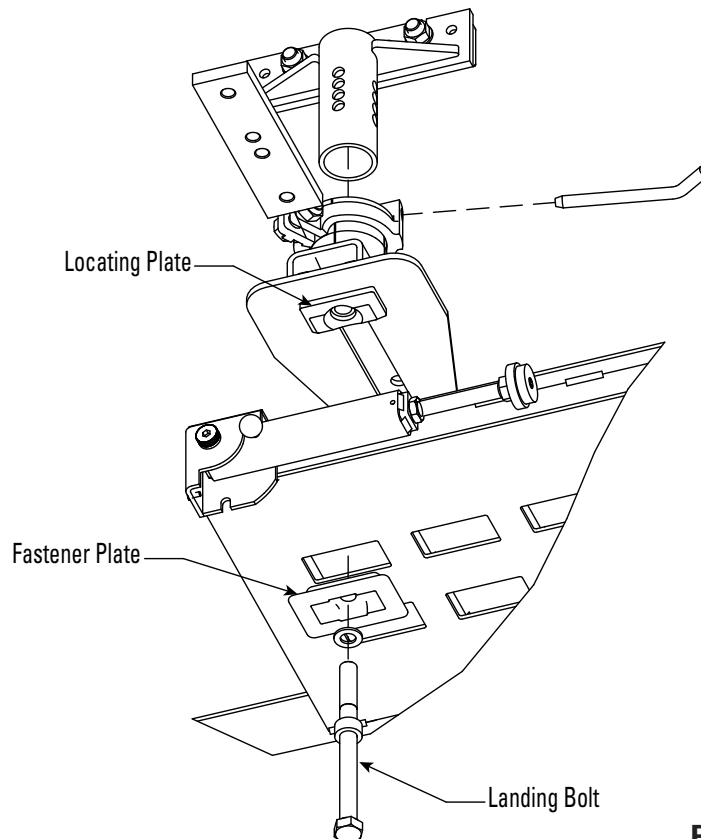

Figure 41
3. Remove the Fastener Plate Bolts and Fastener Plates from the bottom of the mainframe (see Figure 41).